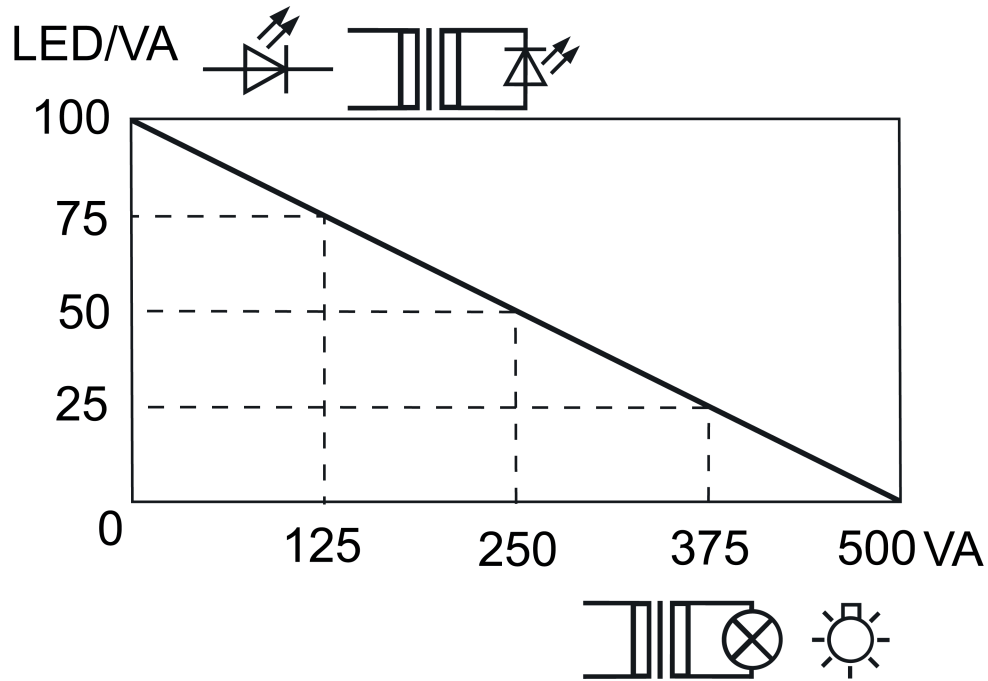

Figure 4: Load curve of mixed loads
**i** Mixed-load operation of LED lamps or compact fluorescent lamps with other permissible loads possible. Note load curve (Figure 4).